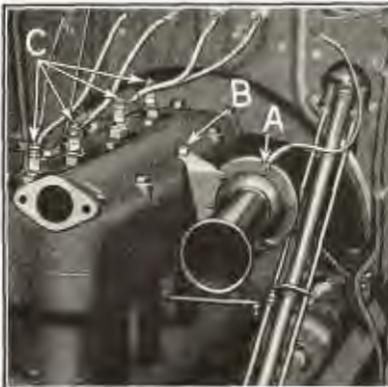

Fig. 25
- 21 **Remove horn** by disconnecting horn wire at horn (See "A" Fig. 25) and running out cylinder head bolt "B" which holds horn to cylinder head.